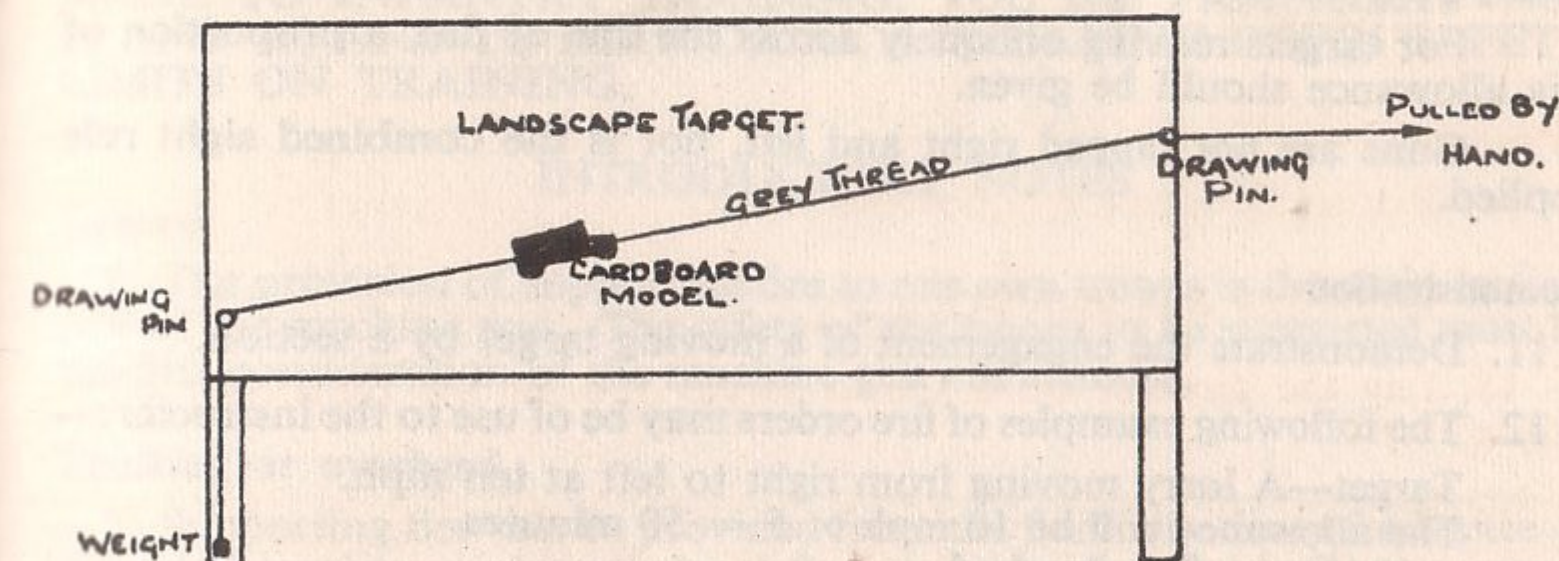

FIG 25
5. Select suitable targets on landscape target. To represent moving targets, prepare a landscape target as under (see Fig 25 below).